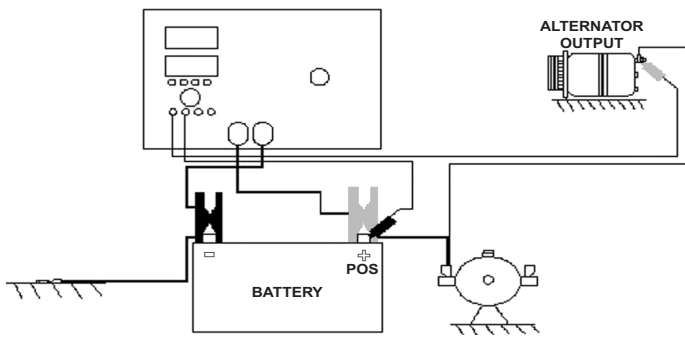

Figure 7
4. Measure Insulated Circuit voltage drop by connecting voltmeter from battery POS post to the alternator output terminal. See Figure 7. Over $\pm 0.5V$ shows bad connections.